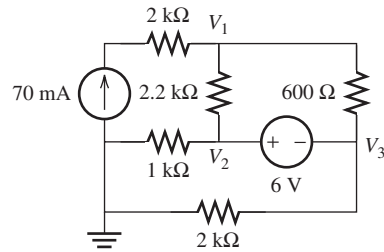

FIGURE P3.49 Circuit for Problem 3.49.
3.49 (H)* Find V_1 , V_2 , and V_3 in Figure P3.49: